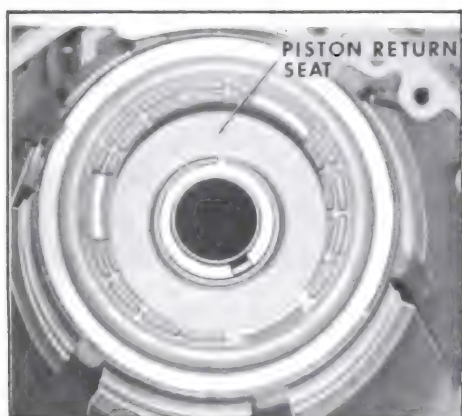

Figure 5-298
5. Position piston return seat on piston return springs. Place snap ring on return seat so that ring may be easily installed when seat is compressed with tool. See Figure 5-298.